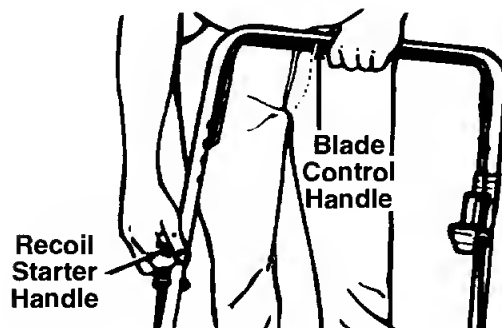

Figure 7
- Standing behind the unit, depress the blade control handle and hold it against the upper handle as shown. See figure 7.